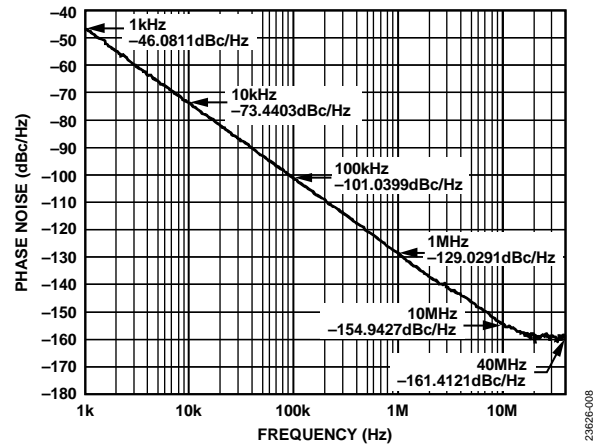

Figure 6. EV1HMC8362LP6G Phase Noise at J3, VCO Band 1,  $V_{TUNE} = 8.45$  V, 13.5 GHz
4. Finally, use the signal source analyzer to measure the phase noise. Refer to Figure 6.